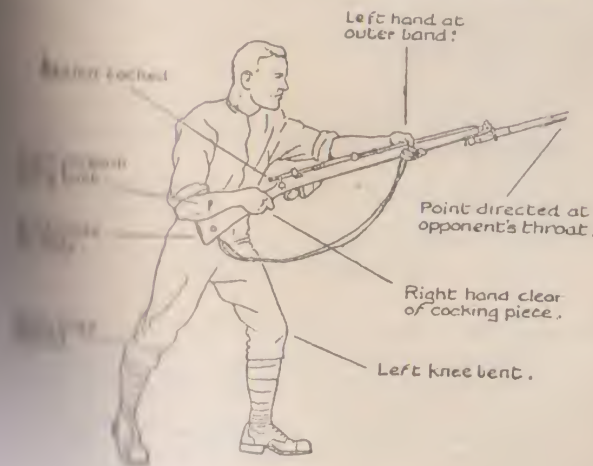

Fig. 1.—On guard.
5. Figures 1 to 5 illustrate the basic positions from which the maximum power and control can be exercised. The instruction is developed in detail in S.A.T. Vol. I, Pamphlet No. 12. Three examples follow in Sections 2, 3 and 4.